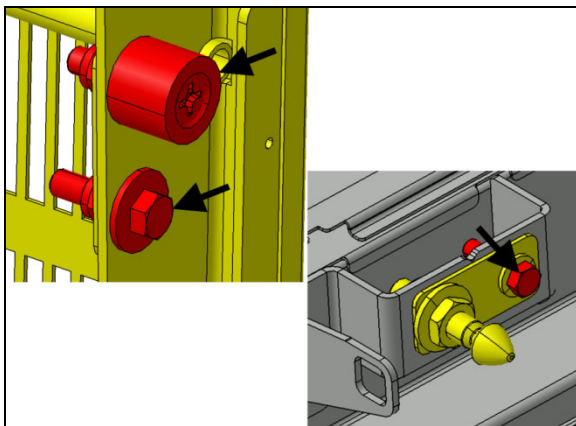

FIGURE 128
5. Open the door and perform a final tightening to the items indicated with arrows (FIGURE 128).